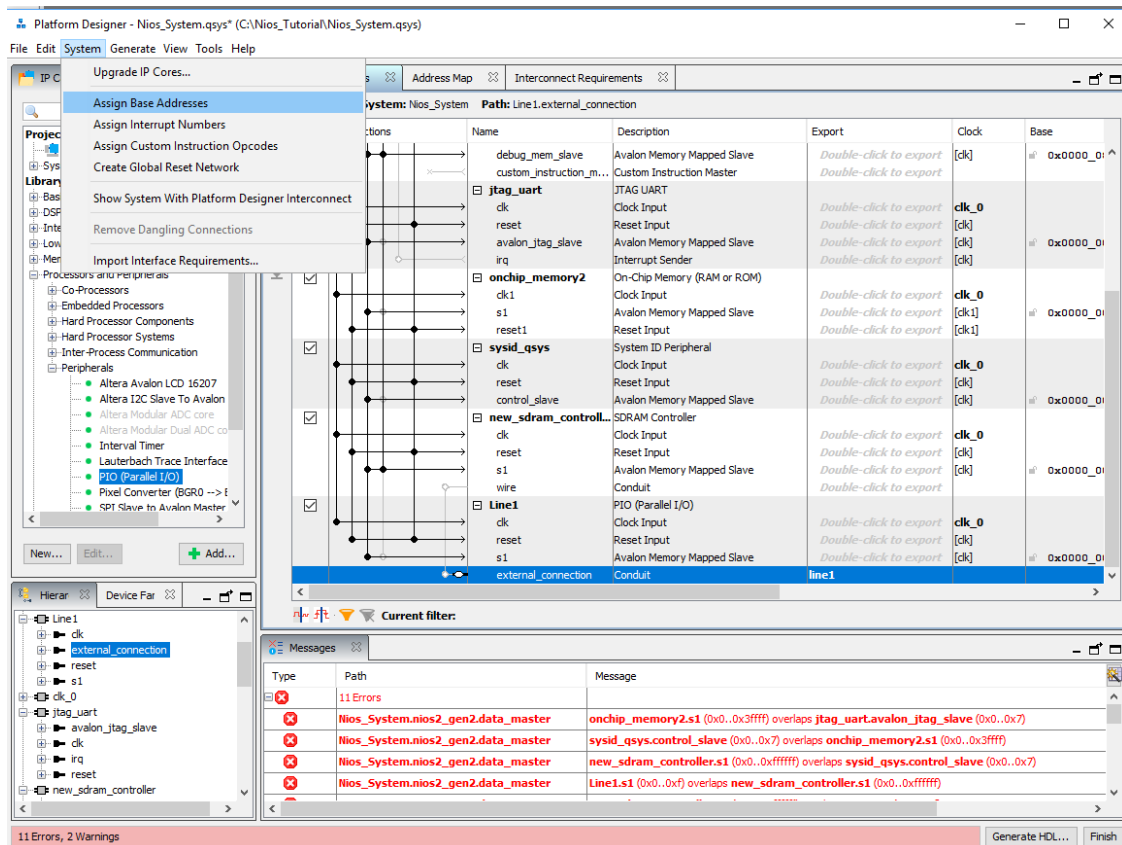

Figure 1-31 Assigning base addresses
20.) Now we need to assign base addresses to all these components. To do this choose **System** → **Assign Base Addresses** as shown in Figure 1-31.